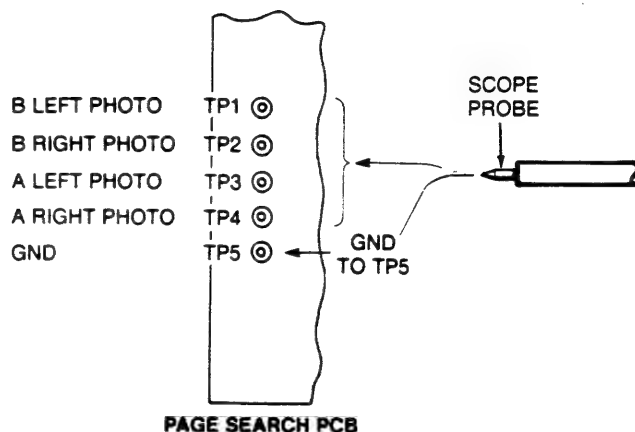

Figure 3-5B
3. Connect the Channel 1 Scope Probe to TP1 (B LEFT PHOTO) and TP5 (GND) on the M-656 Page Search PWB (Figure 3-5B).